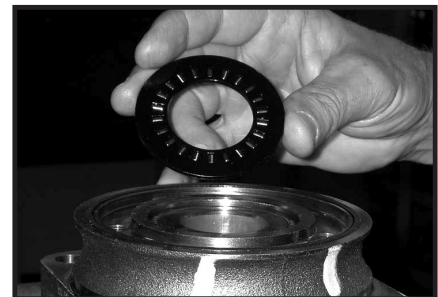

Figure 17
- Remove thrust bearing (11) from top of coupling shaft. Inspect for wear, brinelling, corrosion and a full complement of retained rollers. SEE FIGURE 17.